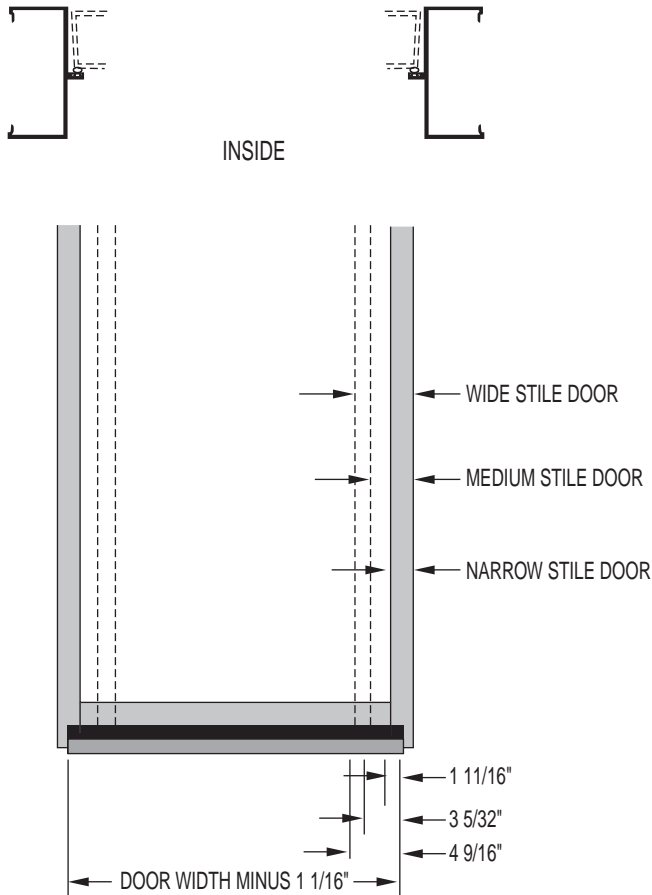

Figure 1
1. Cut the D-118 weather-strip to Door Width minus 1 1/16" see (fig. 1).
2. Placing the D-118 1-1/16" up from the bottom of the door rail (fig. 2), center it by overlapping the stiles equal distances (fig. 1). Using the D-118 as a template, mark the door for the attachment holes. Drill the door for #8 x 1/2" FHSMS, attach the D-118 to the door and insert the D-120 silicone strip. Crimp ends.